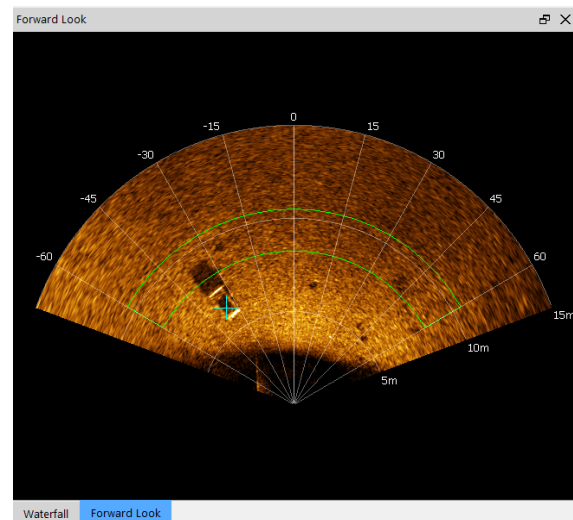

Figure 82. Marking a contact in FLS window
- A blue crosshair appears on the marked contact in the FLS window. The marker stays at the contact position and reappears in the FLS window when the FLS covers the target again (Figure 82).